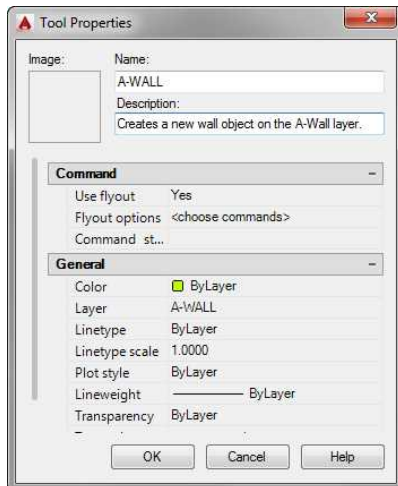

FIGURE 11.34: Changing the name and description for the A-WALL command tool
8. Enter **Creates a new wall object on the A-WALL layer** as the description (see Figure 11.34).